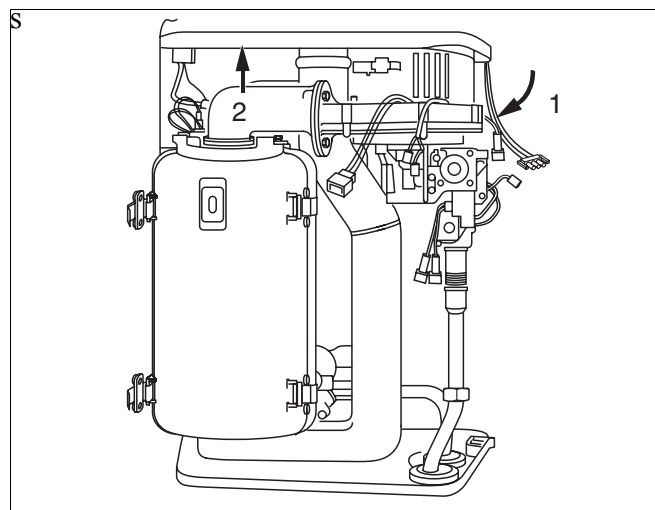

Fig. 92 Remove the air combination unit
- Swivel the air combination unit forwards (fig. 92, item 1).
- Pull the air combination unit up and out of the bayonet connector (fig. 92, item 2) and remove via the front of the unit.